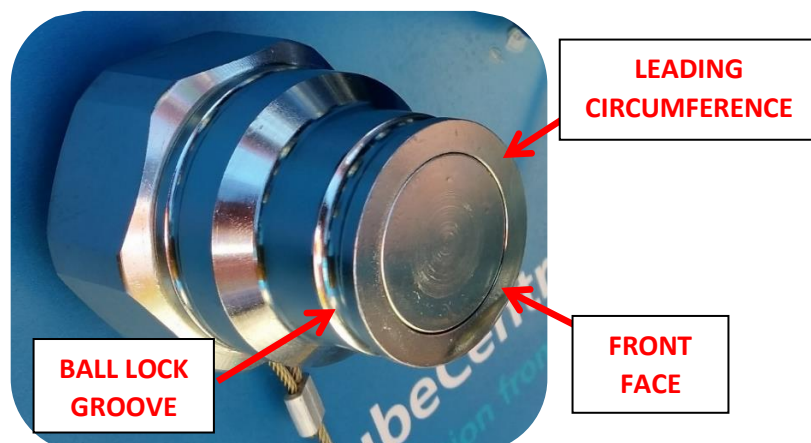

Figure 10 - Critical Areas of Damage on GTXR Receivers
- **Closely** inspect the front area of the GTXR Receiver, including the ball lock groove (refer Figure 10), for signs of damage or excessive wear and tear. Excessive wear or damage may cause problems connecting and disconnecting the GTX couplers, but will also introduce the risk of unintentional coupler disconnection – i.e. GTXN Nozzle “fly off” – during grease transfer. Promptly replace any faulty GTX couplers prior to their next required use, or place the coupler(s) “Out of Service” until replacement.